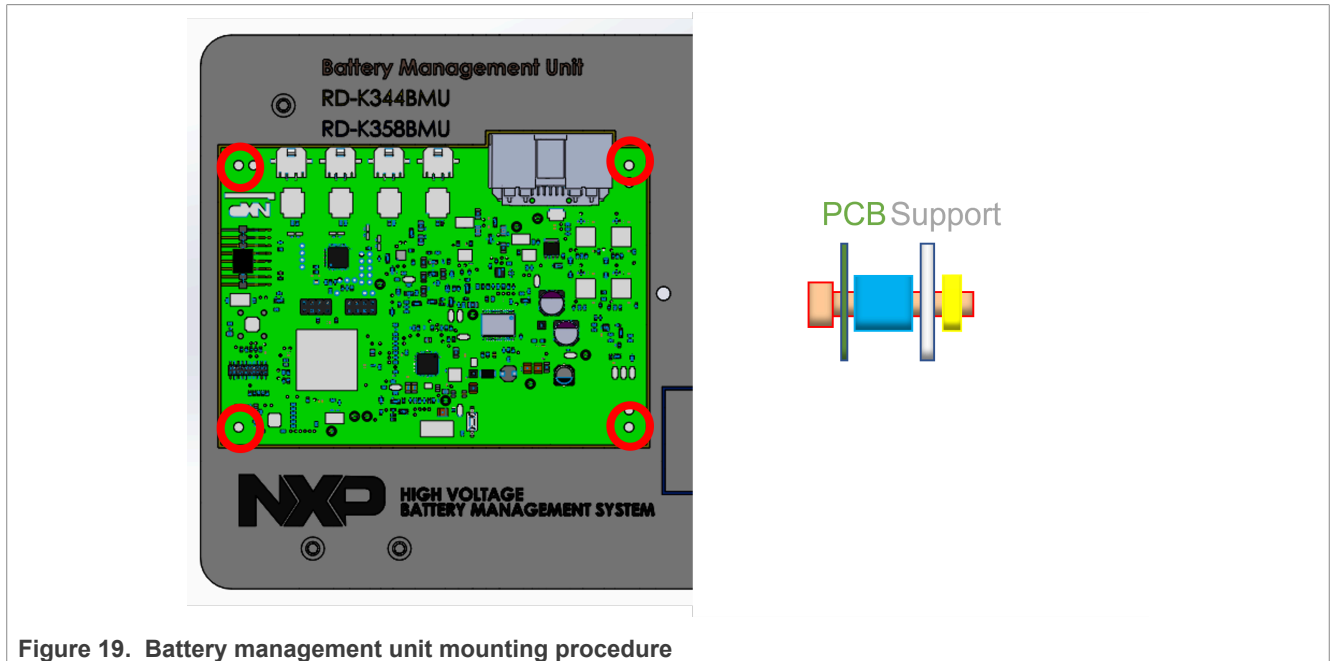

Figure 19. Battery management unit mounting procedure
1. Mount the BMU to the top plate using four screws (280-78012), four standoffs (280-78015) and four nuts (280-76566) according to Figure 19.